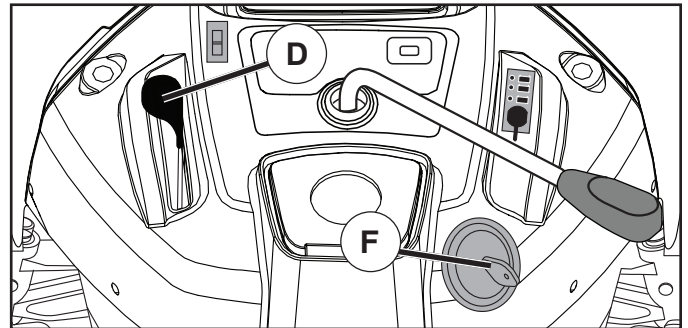

Fig. 9
- Move throttle control (D) to fast position.
- Turn ignition key (F) to "STOP" position and remove key. Always remove key when leaving tractor to prevent unauthorized use.
### TO USE THROTTLE CONTROL (D) (See Fig. 9)